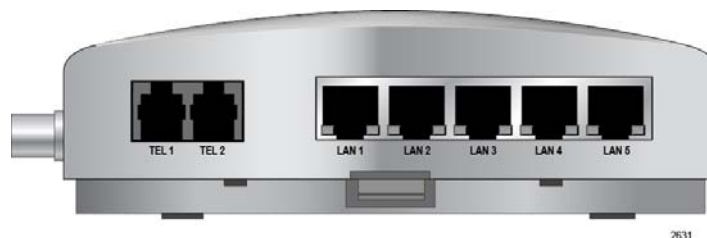

Figure 11: Telephone and LAN ports.
9. Connect the telephone and LAN ports. Connect the TEL1 and LAN1 ports first. Use the other ports for additional devices. (Figure 11)